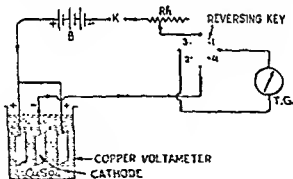

Fig. 18-1
1. Make the connections as shown in the figure 18-1. See that you have connected the tangent galvanometer between the opposite terminals of the reversing key and NOT between the